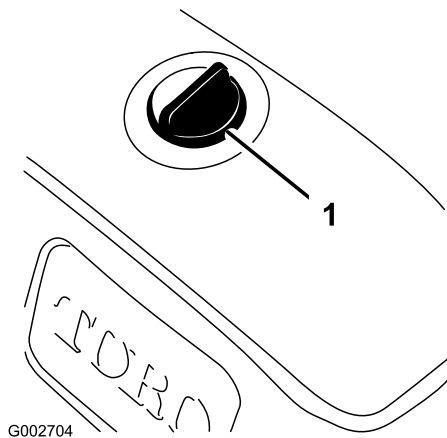

Figure 42
3. Clean the area around the hydraulic-reservoir cap to prevent debris from entering the tank (Figure 42).